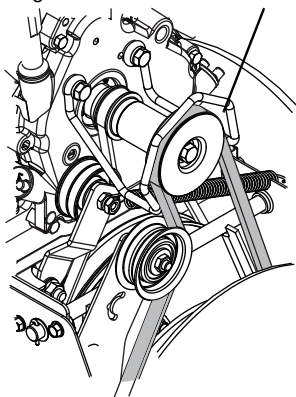

Figure 25
1. With the clutch lever disengaged, brake pad must contact attachment belt. With clutch lever engaged, brake pad must be more than 1/16 in. (1.6 mm) from belt. If there is more than 1/16 in. (1.6 mm) gap, go to *Check Belt Finger Clearance (Figure 25)* on page 24. If there is less than 1/16 in. (1.6 mm) gap, go to Step 2.
Check Belt Finger Clearance (Figure 25)
22. Adjust traction drive clutch. See *Check Belt Finger Clearance (Figure 25)* on page 24.